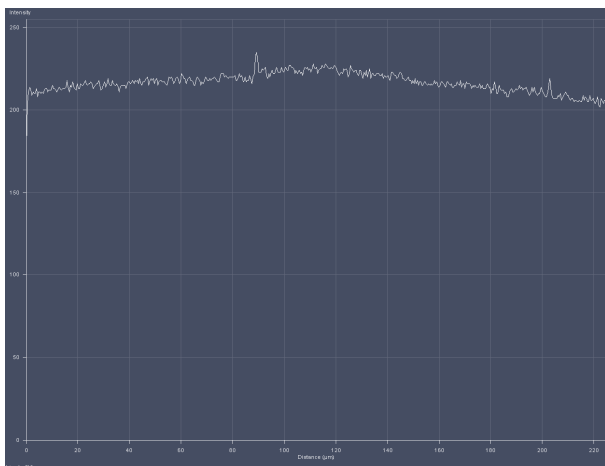

Fig. 21 Line diagram at upper cover slip surface
- Having cautiously moved over a short distance the line position will decline again to a minimum and then rise again to a second maximum (Fig. 21), which corresponds to the upper cover slip surface.